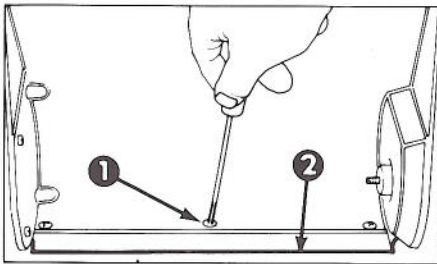

Figure 7
1. Remove the rotor; refer to Replacing Rotor, page 6, items 1 through 3.
2. Remove the three screws and locknuts used to hold the scraper blade in place. Remove scraper blade (Fig. 7).